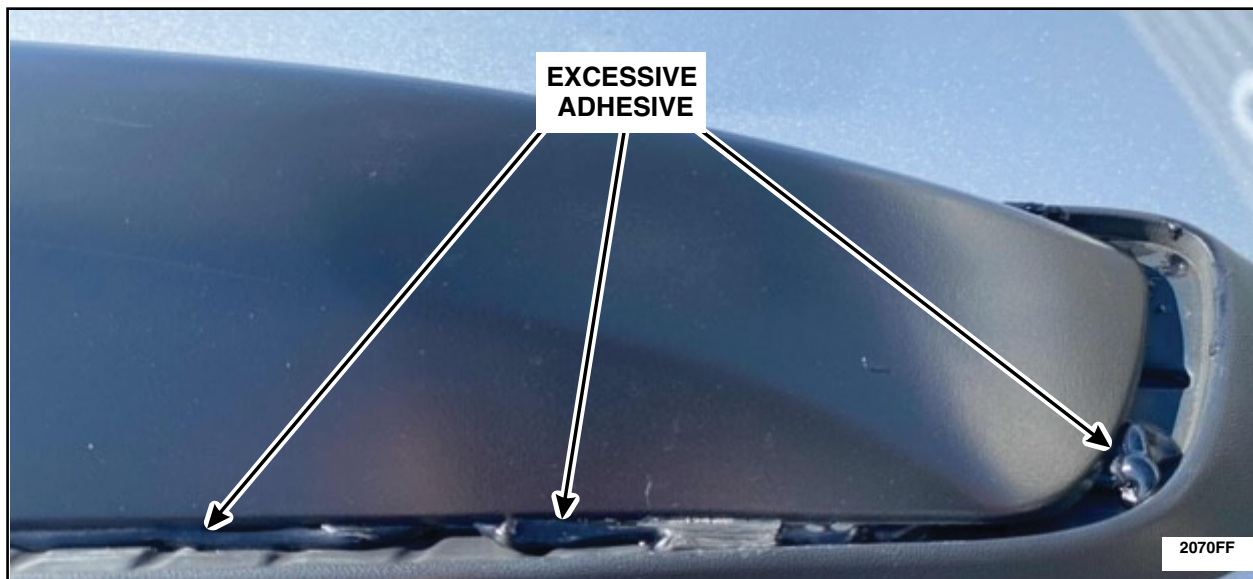

FIGURE 20
6. Clean off any excessive adhesive. See Figure 20.